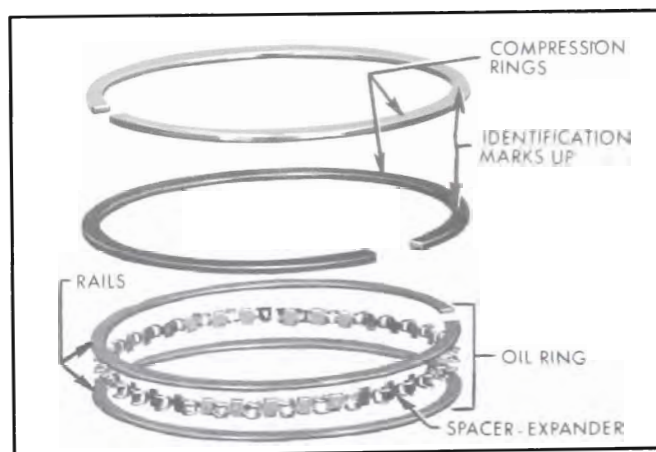

Figure 2-60—V-8 Piston Rings
7. Remove compression rings with expander and remove oil ring by removing the two rails, and spacer - expander which are separate pieces in each piston third groove. See Figures 2-60 and 2-61.
8. Install V-8 piston rings as shown in Figure 2-60. Position expander ends over piston pin where groove is not slotted, and be absolutely
10. Install compression rings in top and center groove. See Figures 2-60 and 2-61.